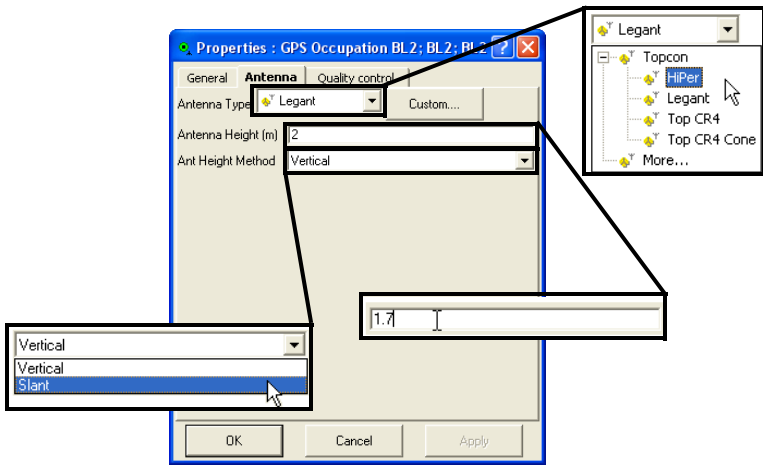

Figure 5-5. Enter New Parameters
3. On the *Antenna* tab and change the *Antenna Type*, *Antenna Height*, and *Ant Height Method* as needed (Figure 5-5 on page 5-9).